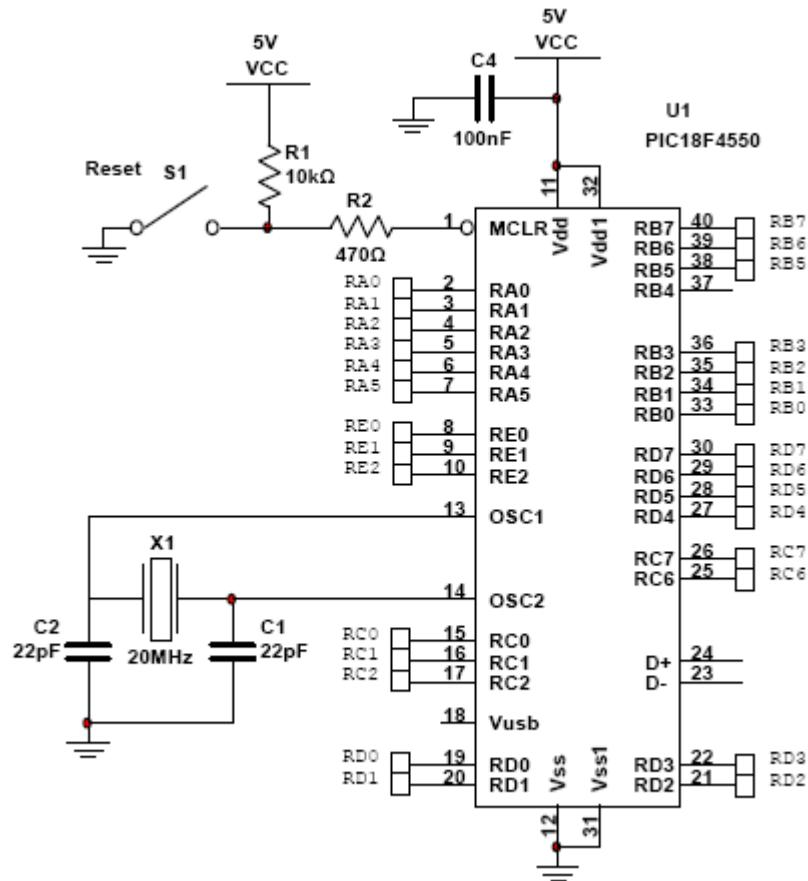

Figure 2.3 - A basic PIC18F4550-based circuit
1. the "basic PIC18F4550-based **circuit**" - Figure 2.3